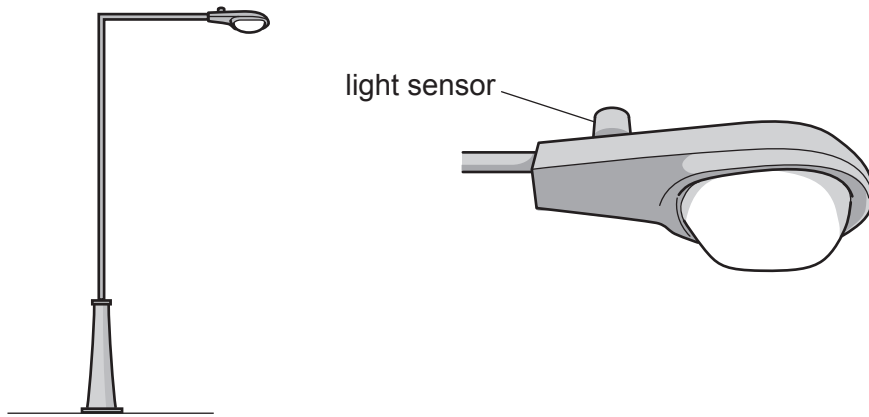

Fig. 3.1
- 3 Fig. 3.1 shows a street light with a light sensor on the top which is used to illuminate pavements and roads at night.